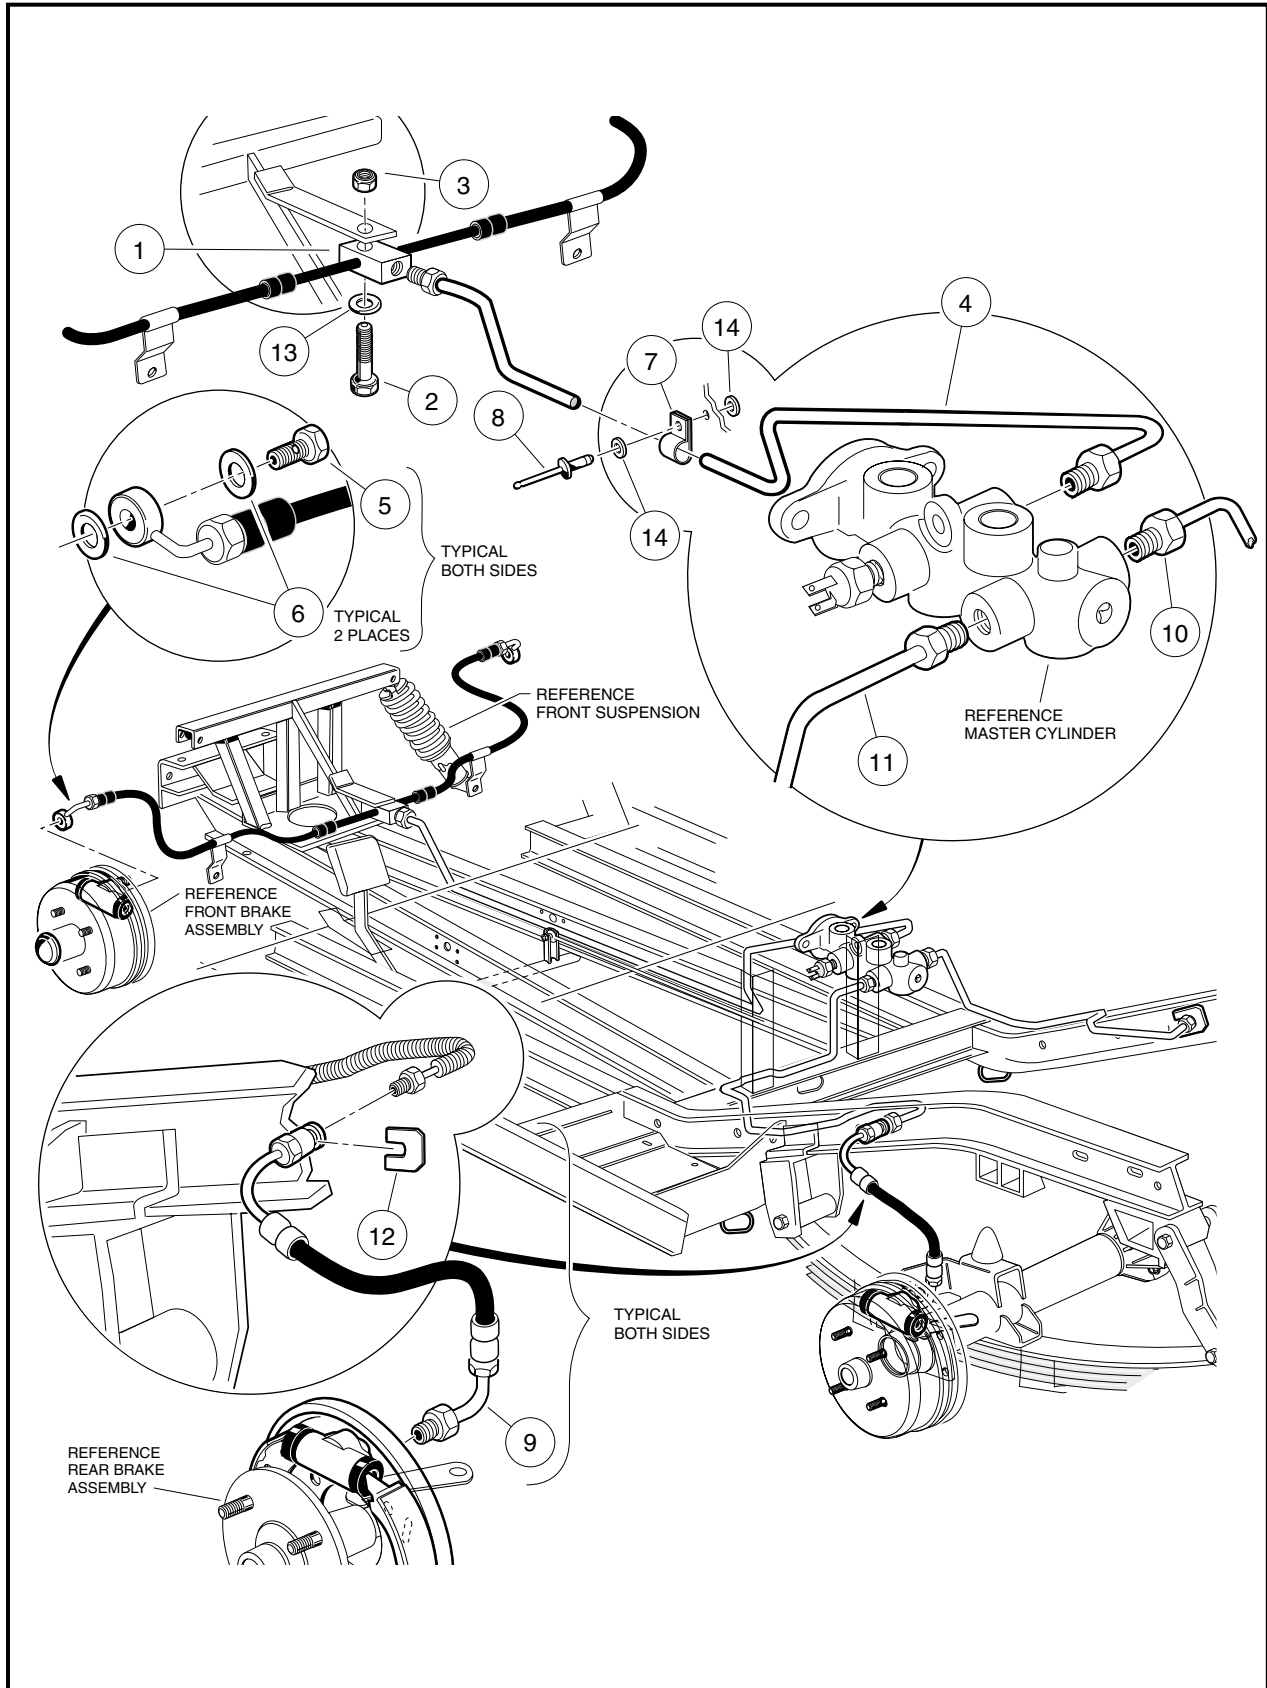

Figure 6a-22 Four-Wheel Hydraulic Brake System
5. Using a 3/8-inch flare nut wrench, remove brake line (4) from the T-manifold block (1) (**Figure 6a-22, Page 6a-29**).
1. Connect the 7/16-inch flare nut of the brake line (4) to the master cylinder and tighten finger-tight (**Figure 6a-22, Page 6a-29**).
2. Connect the 3/8-inch flare nut of the brake line (4) to the T-manifold block (1) and tighten finger-tight (**Figure 6a-22, Page 6a-29**).
3. Secure the brake line to the vehicle frame with the P-clamp (7), new 3/6 x 3/4-inch aluminum pop rivet (8), and two 3/16-inch rivet washers (14) (**Figure 6a-22, Page 6a-29**).
4. Using a 7/16-inch flare nut wrench, tighten the flare nut from the brake line (4) to the master cylinder to 11 ft-lb (14.9 N·m) (**Figure 6a-22, Page 6a-29**).
5. Using a 3/8-inch flare nut wrench, tighten the flare nut from the brake line (4) to the T-manifold block (1) to 11 ft-lb (14.9 N·m) (**Figure 6a-22, Page 6a-29**).
NOTE: If either of the two front brake hoses or the T-manifold block (1) are found to be damaged, the entire assembly must be replaced (**Figure 6a-22, Page 6a-29**).
3. Remove the banjo bolt (16) and two copper washers (17) from each of the front brake wheel cylinder assemblies (**Figure 6a-3, Page 6a-4**). Discard the copper washers (17).
5. Using a 3/8-inch flare nut wrench, remove the brake line (4) from the T-manifold block (1) (**Figure 6a-22, Page 6a-29**).
6. Remove the bolt (2), washer (13) and lock nut (3) that secure the T-manifold block (1) to the shock tower and remove the front brake hose assembly (**Figure 6a-22, Page 6a-29**).
1. Install the 1/4-20 x 1-1/4-inch hex-head bolt (2) through washer (13) and through the T-manifold block (1) and frame bracket. Install and tighten the nylon lock nut (3) to 76 in-lb (8.6 N·m) (**Figure 6a-22, Page 6a-29**).
2. Connect the brake hose assemblies to each of the front brake wheel cylinders, using new copper washers (17) and banjo bolts (16). Position the elbow of each hose toward the rear of the vehicle. Tighten bolts to 13 ft-lb (17.6 N·m) (**Figure 6a-3, Page 6a-4**).
4. Using a 3/8-inch flare nut wrench, connect the flare fitting on the front brake line (4) to the T-manifold block (1). Tighten to 11 ft-lb (14.9 N·m) (**Figure 6a-22, Page 6a-29**).
3. Using a 3/8-inch flare nut wrench, remove brake line (10 or 11) from the master cylinder (**Figure 6a-22, Page 6a-29**).
4. Using a 3/8-inch flare nut wrench, remove the same brake line (10 or 11) from the rear brake hose at the I-beam of the vehicle frame and remove from the vehicle (**Figure 6a-22, Page 6a-29**).
1. Using a 3/8-inch flare nut wrench, install brake line (10 or 11) to rear brake hose at the I-beam of the vehicle frame (**Figure 6a-22, Page 6a-29**). Tighten to 11 ft-lb (14.9 N·m).
2. Using a 3/8-inch flare nut wrench, install the opposite end of the brake line to the master cylinder. Tighten the flare nut fitting to 11 ft-lb (14.9 N·m) (**Figure 6a-22, Page 6a-29**).